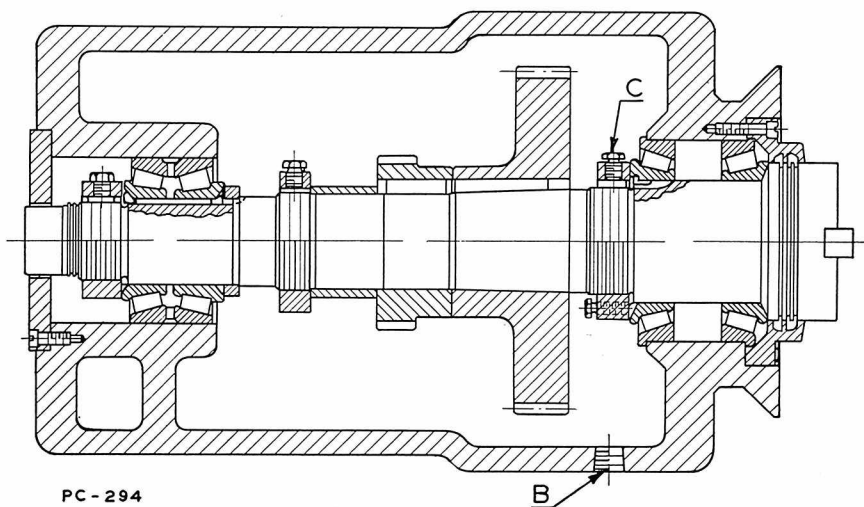

Figure 28
3. Horizontal Machines—remove pipe plug "B" at the side of the column (Fig. 28).